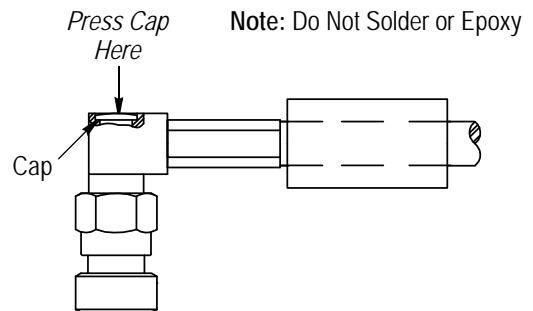

Figure 5
*Manually* press the cap into the opening at the back of the housing subassembly. See Figure 5.
- Remove solder from Figure 5